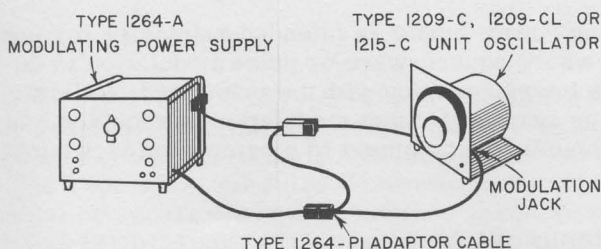

Figure 3. Connection of Type 1264-A to Unit Oscillator by Means of Type 1264-P1 Adaptor Cable.
2.4.2 CONNECTIONS TO TYPES 1209-C, 1209-CL, and 1215-C UNIT OSCILLATORS. The Type 1264-A Modulating Power Supply can be connected to the Type 1209-C, 1209-CL, or 1215-C Oscillators by means of the Type 1264-P1 Adaptor Cable as shown in Figure 3. The four-terminal connector on the adaptor cable is plugged into the mating receptacle on the Type 1264-A, while the four-terminal connector on the cable from the oscillator is plugged into the mating receptacle on the adaptor cable. The eight-terminal connector on the adaptor cable is mated with the matching plug on the cable from the Type 1264-A. The telephone plug on the adaptor cable is plugged into the oscillator modulation jack.